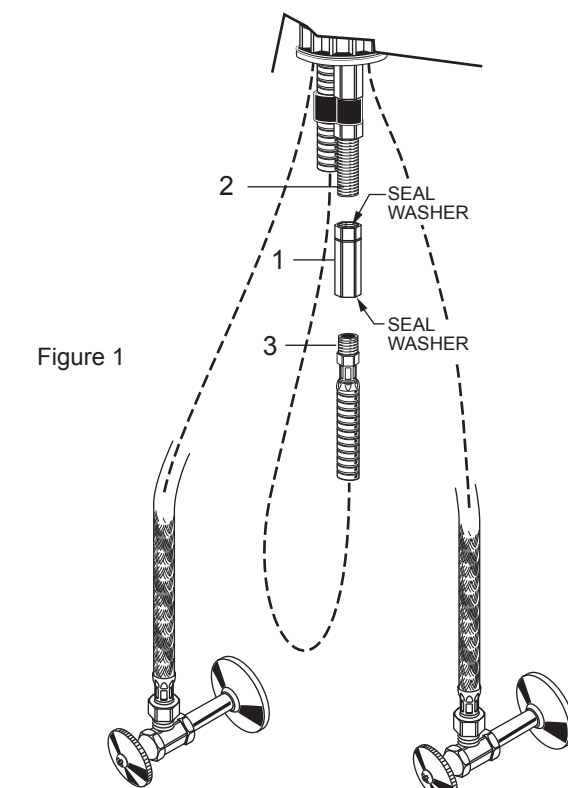

Figure 1
- Check that seal washers are installed in both ends of SPRAY HOSE ADAPTER (1). Thread SPRAY HOSE ADAPTER (1) onto faucet SHANK (2). Tighten with adjustable wrench. Figure 1.
- Thread HOSE END (3) into bottom of SPRAY HOSE ADAPTER (1). Tighten with adjustable wrench. Make sure all connections are tight. Figure 1.